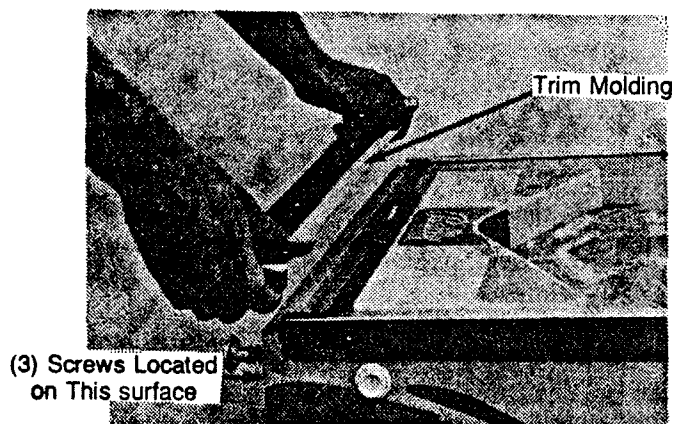
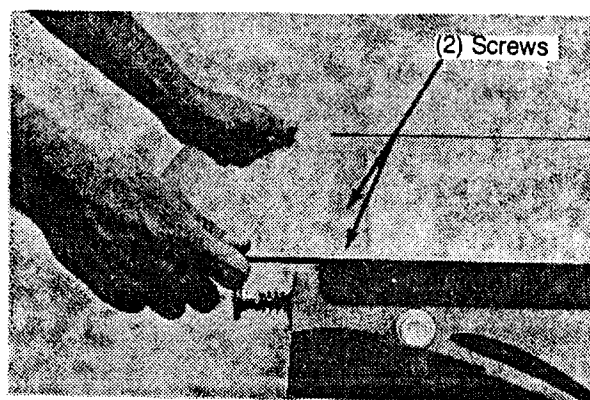
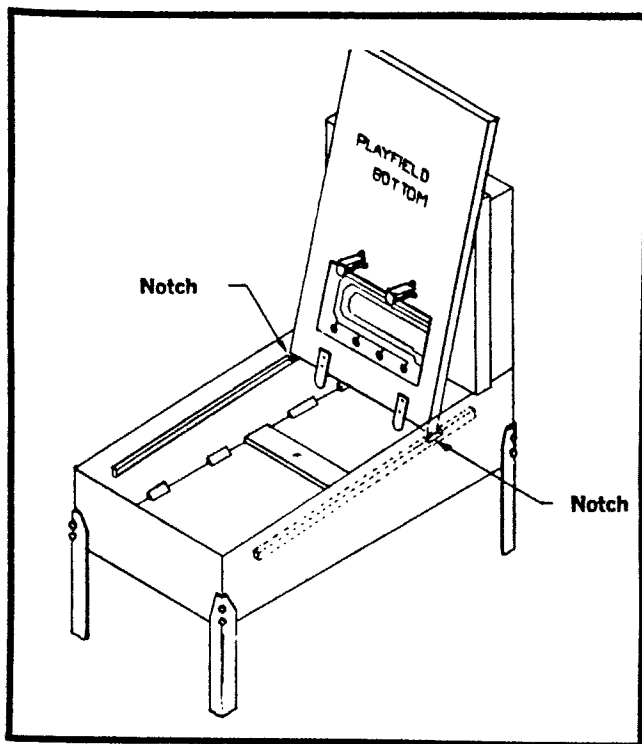

Fig. 9-32. Removing the trim molding to gain access to the playfield. Take out the three screws as indicated to remove the molding.
Fig. 9-33. Sliding out the glass. Remove the two screws shown, then carefully slide out the glass.
Fig. 9-34. Positioning the playfield. Place the playfield in the two notches shown, then let it rest against the cabinet back.
Remove the playfield glass as shown in Figs. 9-32 and 9-33. Wipe the playfield surface with a soft rag or slightly dampened towel.
Remove the three screws in the front of the cabinet as shown in Fig. 9-32. Lift off the trim molding. Carefully slide out the playfield glass as shown in Fig. 9-33. Remove the two screws in the bracket holding down the playfield as shown in Fig. 9-33. Raise the playfield from the front and place it
against the cabinet back box with the playfield resting in the notches provided in the playfield support rails. Refer to Fig. 9-34. The playfield bottom (lamps, switches, and solenoids), flipper switches, tilt assembly, and power supply are now easily accessible.
1. Remove the playfield glass as shown in Figs. 9-32 and 9-33. Raise the playfield as shown in Fig. 9-34.
3. Remove the playfield glass as shown in Figs. 9-32 and 9-33. Raise the playfield as shown in Fig. 9-34.
1. Remove playfield glass as shown in Figs. 9-32 and 9-33. Raise the playfield as shown in Fig. 9-34.